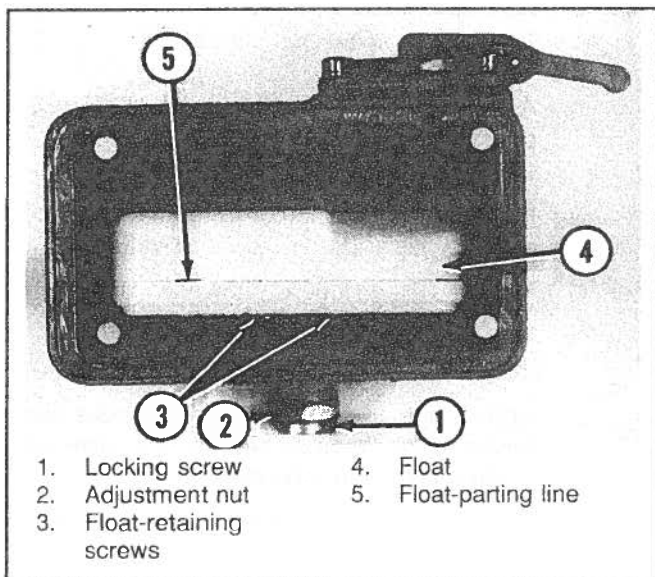

Figure 7-103. Adjusting Float Level
3. Proper float adjustment is achieved when parting line on float is parallel with fuel bowl (Figure 7-103). Parting line must be parallel all the way around float.